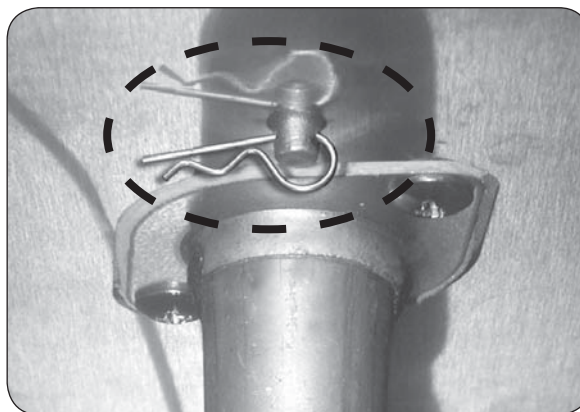

Fig. 16-1 Remove burner clip
3. Reach up under the burner support and remove the burner retaining clip (see Fig. 16-1), located at the rear of the burner pipe.